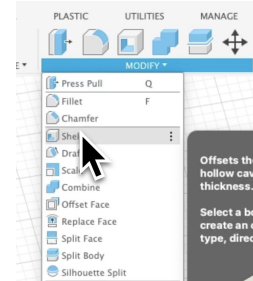

Figure 1.4
- If you want to add features such as rounded (fillet) or beveled (chamfer) corners, use the Modify tools. These tools allow you to refine 3D geometry without returning to the original sketch, making edits more efficient and flexible. These are found under the '**Modify**' dropdown in the toolbar (see Figure 1.4).